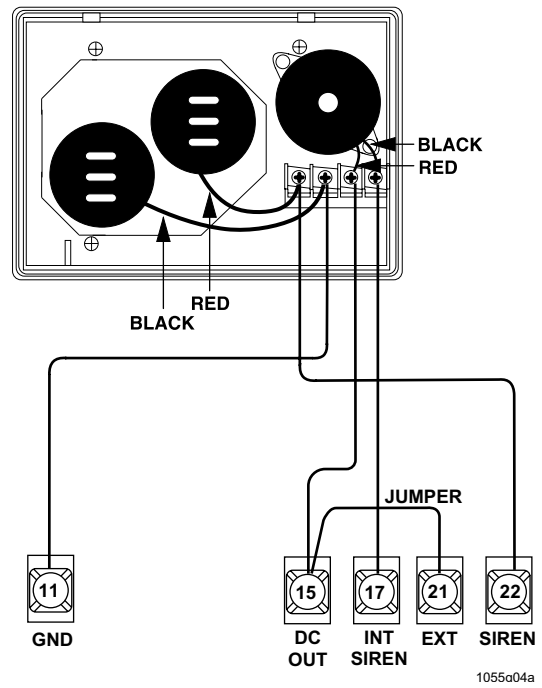

Figure 2. Wiring from the Siren to CareTaker *Plus* and Custom Versions
1. Connect the dual piezo wires to the two left screws and the single piezo wires to the two right screws (see Figure 2).
2. Make wiring connections between the siren and the panel as shown in Figure 2.